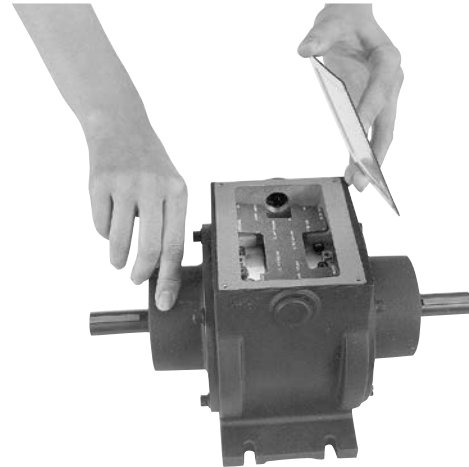

Figure 1
1. Remove the cover from the Electro-Pack unit. (Figure 1)